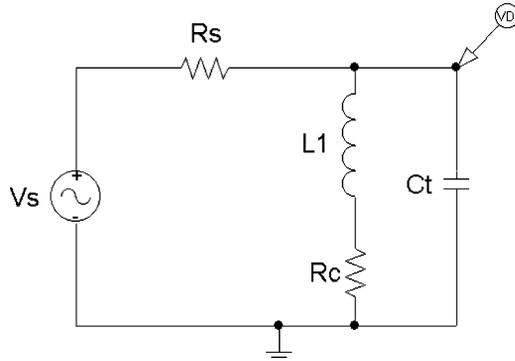

FIGURE 6.41: Parallel-tuned LCR circuit
- (1) Fig. 6.41 shows a resonant circuit fed from a voltage source in series with a large resistance R_s thus simulating a current source. Determine the -3 dB bandwidth, loaded and unloaded Q -factor, and the dynamic impedance $R_s = 110$ k Ω , $R_c = 10$ Ω , $C_t = 5.3$ nF, $L_1 = 470$ uH,